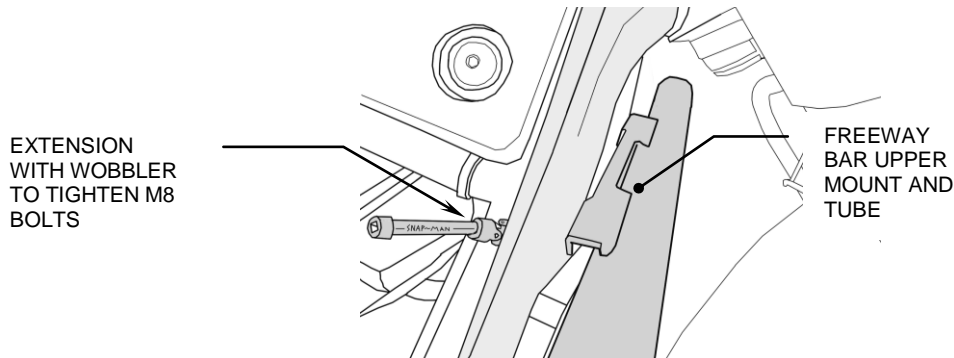

FIGURE 4.
3. Insert the (2) supplied M8 x 16 mm **flange** bolts through the top (2) holes in motorcycle frame from the inside, (engine side), outward and into the upper freeway bar mount, see Figure 4. You will need to use a universal (wobbly) extension with a 12 mm socket to tighten the (2) M8 bolts at this time.